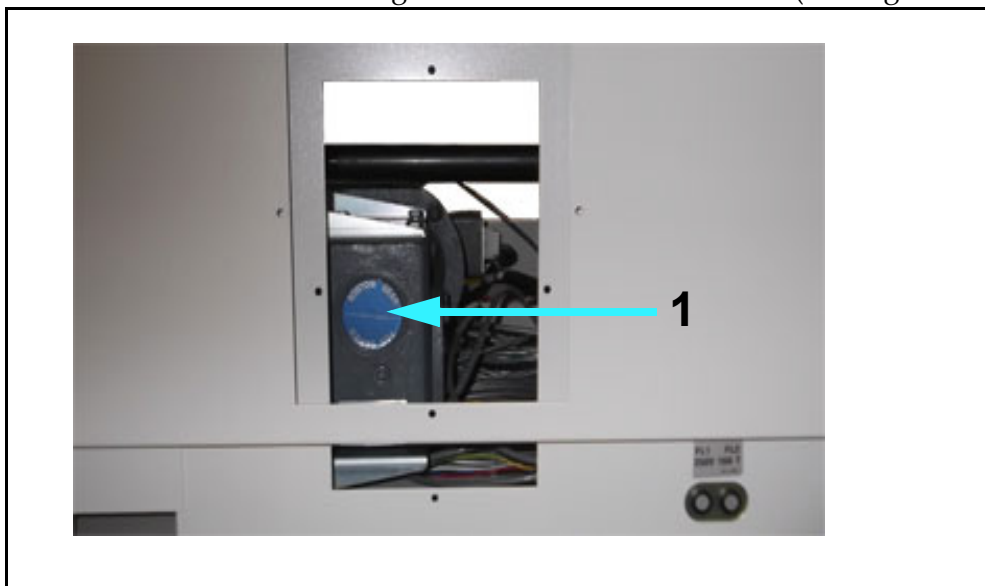

Figure 5-5. Gearbox
- 5** The rear of the gearbox should now be visible (1 in Figure 5-5).